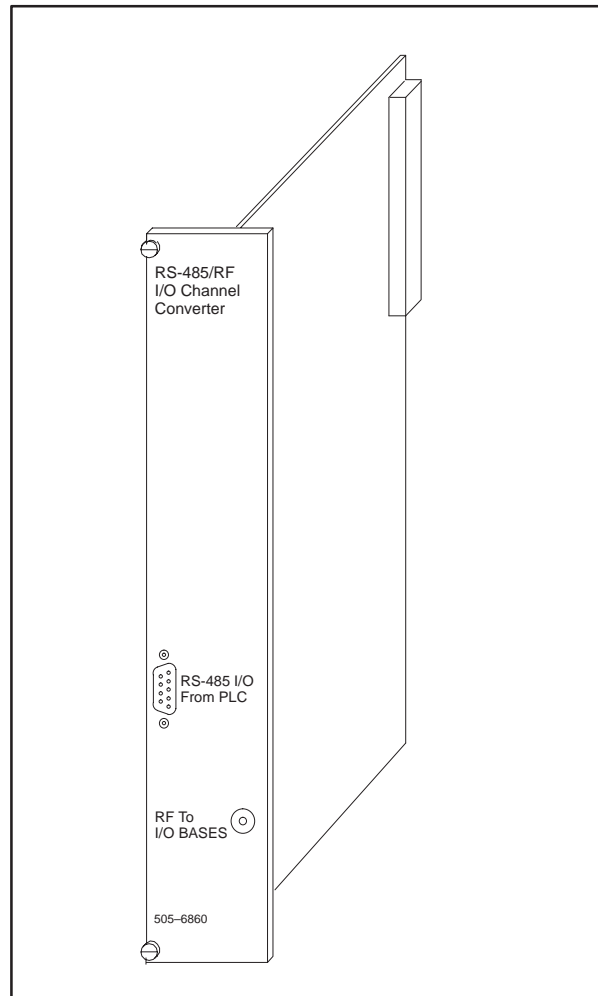

Figure 1 PPX:505-6860 Bezel
4. Connect the RF (coaxial) cable to the PPX:505-6860 port that is labeled: **RF TO I/O BASES**. See Figure 1.